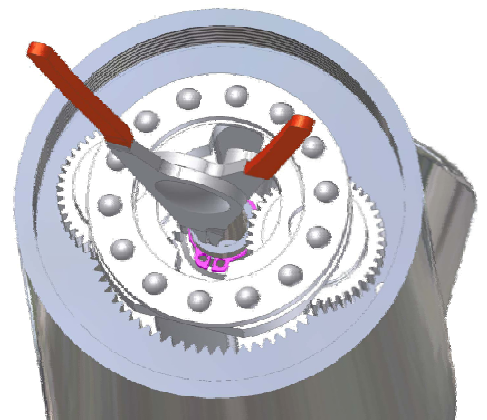

Figure 16
6. Remove position 38 using snap-ring pliers (Figure 27) from position 32.3 and as shown in Figure 16.